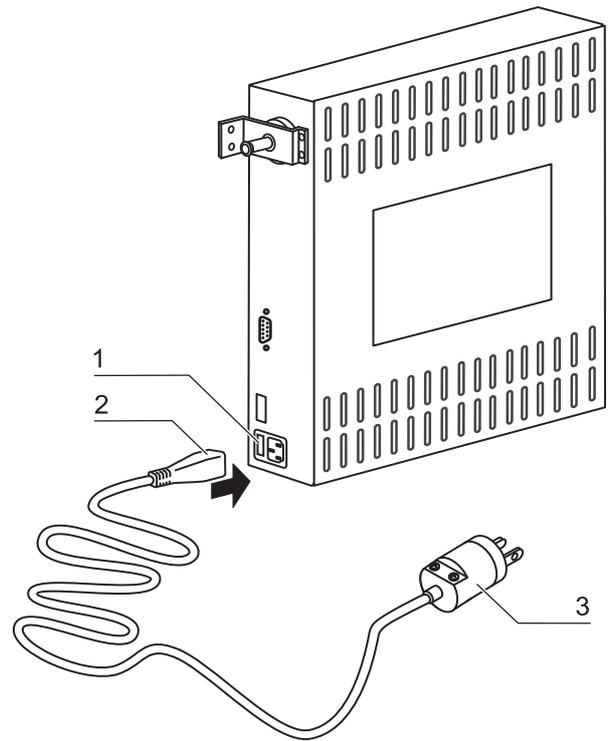

Fig.13: Power supply connection
- [1] Before connecting the device to the power supply, check to see if the voltage of the power supply corresponds with the specifications on the nameplate at the front of the device. If the ratings given for voltage (V) and current (A) are not correct, the device must not be connected to the power supply.
- [2] **Fig.13:** Connect the connector for non-heating appliances [2] to the socket [1] at the control box of the device.